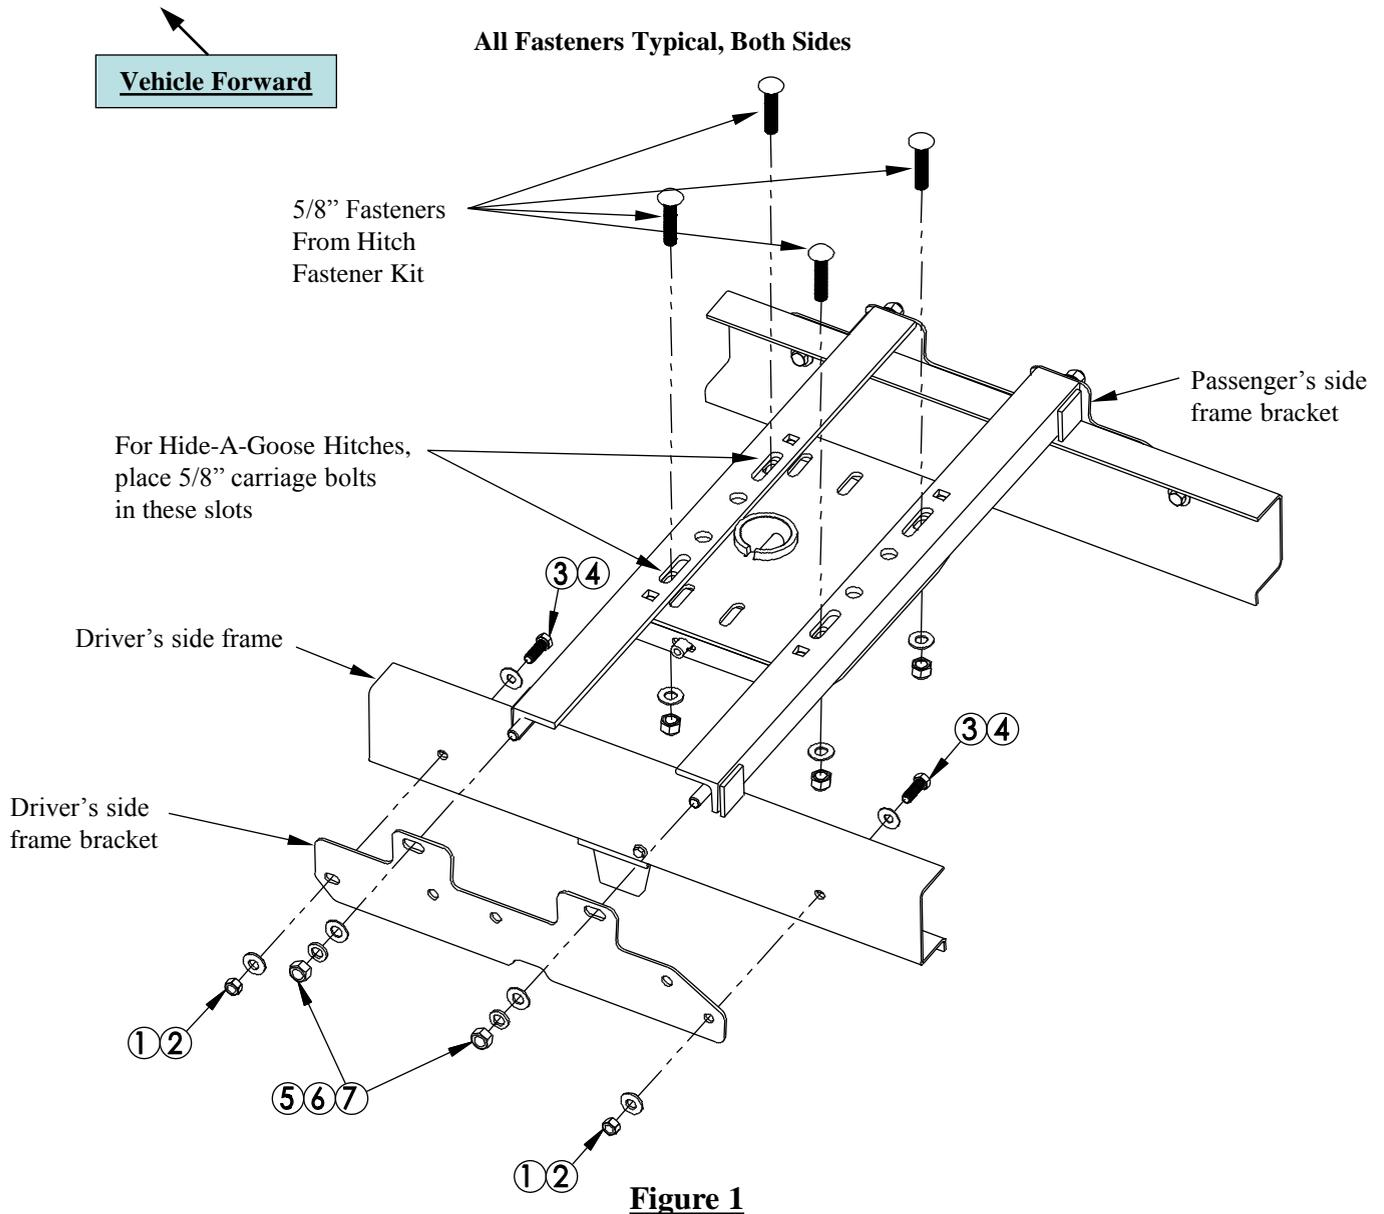

Figure 1
2. Place 5/8" GR8 carriage bolts from the Hide-A-Goose hitch fastener kit into the slots on the cross members from the top pointing towards the ground (see Figure 1).
- Line up the mounting holes on the frame brackets with the studs on the ends of the cross members. Loosely attach frame brackets to rails with 5/8" hex nuts, lock washers and flat washers as shown in Figure 1.
- Line up the mounting holes on the frame brackets with the holes in the side of the frame. Loosely attach frame brackets to the truck frame using the 1/2" hex bolts, flat washers, conical toothed washers, and hex nuts as shown in Figure 1.
- Loosely install the 9460/9470 Hide-A-Goose hitch. Refer to the 9460/9470 instruction sheet for installation. **Note: The ball of the hitch should be closer to the forward rail than the rear rail, as shown in Figure 1.**